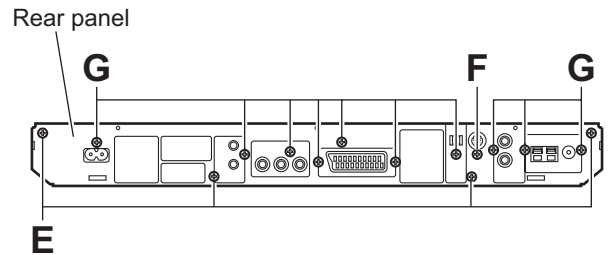

Fig.6
3.1.3 Removing the rear panel (See Fig.6)